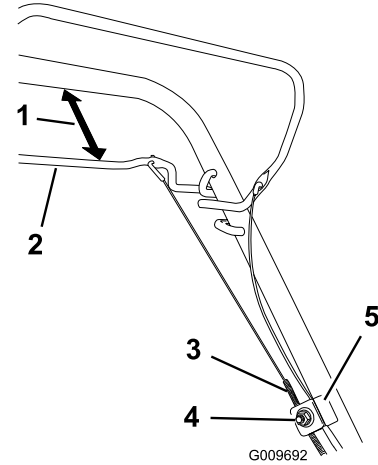

Figure 24
- Loosen the cable support nut (Figure 24).
- Hold the self-propel bail 1 to 1-1/2 inches (25 to 38 mm) from the handle (Figure 24).
- Pull down the cable jacket (toward the mower) until there is no slack in the cable (Figure 24).